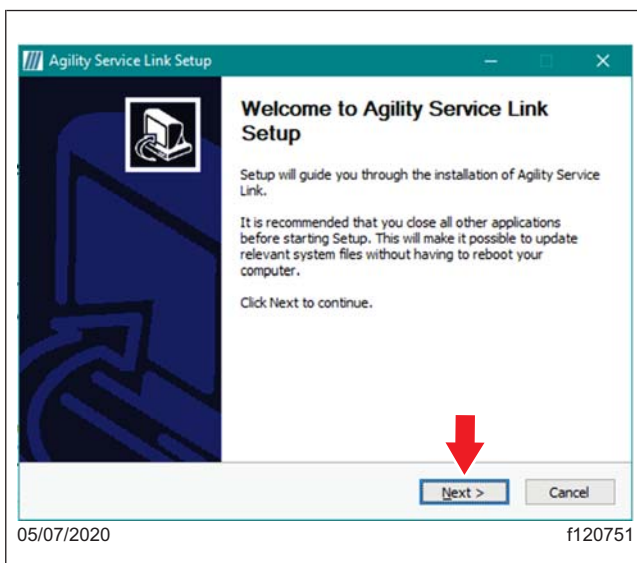

Fig. 5, Agility Service Link Setup Window
8. An 'Agility Service Link Setup' window will appear. Select 'Next' as shown in Fig. 5.